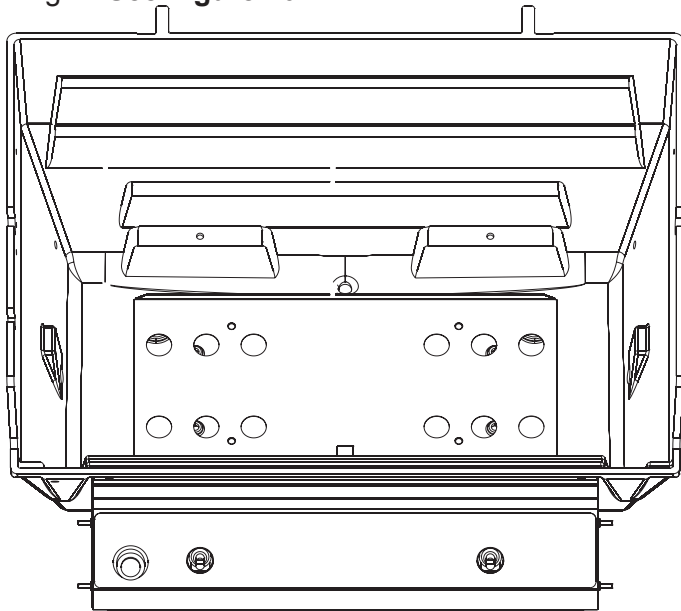

Figure 20
2. Place radiation shield (flange side up) onto four raised bosses located on the interior bottom of the grill. **See Figure 20.**